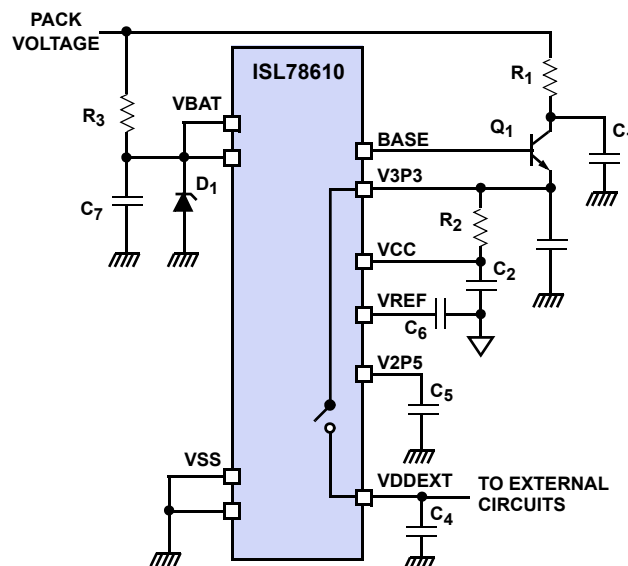

FIGURE 45. ISL78610 REGULATOR AND EXTERNAL CIRCUIT SUPPLY ARRANGEMENT
The ISL78610 main low voltage regulator uses an external NPN pass transistor to supply 3.3V power for the V3P3 and VCC pins. This regulator is enabled whenever the ISL78610 is in Normal mode and can also power external circuits through the VDDEXT pin. An internal switch connects the VDDEXT pin to the V3P3 pin. Both the main regulator and the switch are off when the part is placed in Sleep mode or Shutdown mode (EN pin LOW.) The pass transistor's base is connected to the ISL78610 BASE pin. A suitable configuration for the external components associated with the V3P3, VCC, and VDDEXT pins is shown in Figure 45 on page 26.
**TABLE 5. COMPONENT SELECTION FOR CRICUIT IN Figure 45**